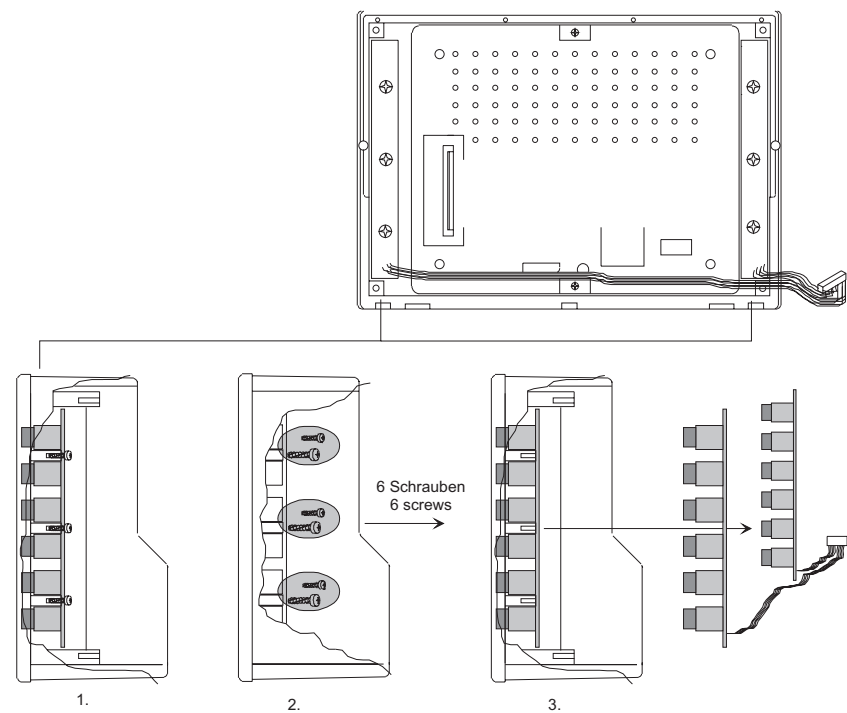

Fig. 8-7: Removal of switch pcb
10. Remove the six fixing screws for the switch pcb's and take boards out of the frame. (fig. 8-7)